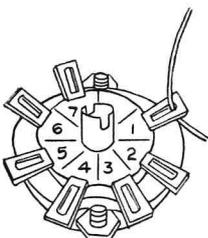

Fig. 3. This lead stays in place by itself when properly positioned. The idea is to leave one hand for the soldering iron and the other to hold the solder.
**Temporary Connections.** When you expect to rebuild a circuit, temporary connections are the kind to use. Most of the connections you make in your demonstration kits will be of the temporary kind. To make a temporary connection, the leads to be joined at a lug are just pushed through the hole in the lug so they will stay there. They should stay in place without being held by pliers or by twisting the lead around the lug. Fig. 3 shows an example of a lead pushed through the hole in terminal 1 of a tube socket. The lead is pushed through from the top and the weight of the part will hold the lead in place. Of course, the lead must not be pushed down far enough to touch the metal mounting ring of the socket, or to touch the chassis, as this would cause a short circuit. Once the lead is in place, a small amount of solder is applied. To take such a joint apart, just melt the solder and pull the lead out of the lug hole.